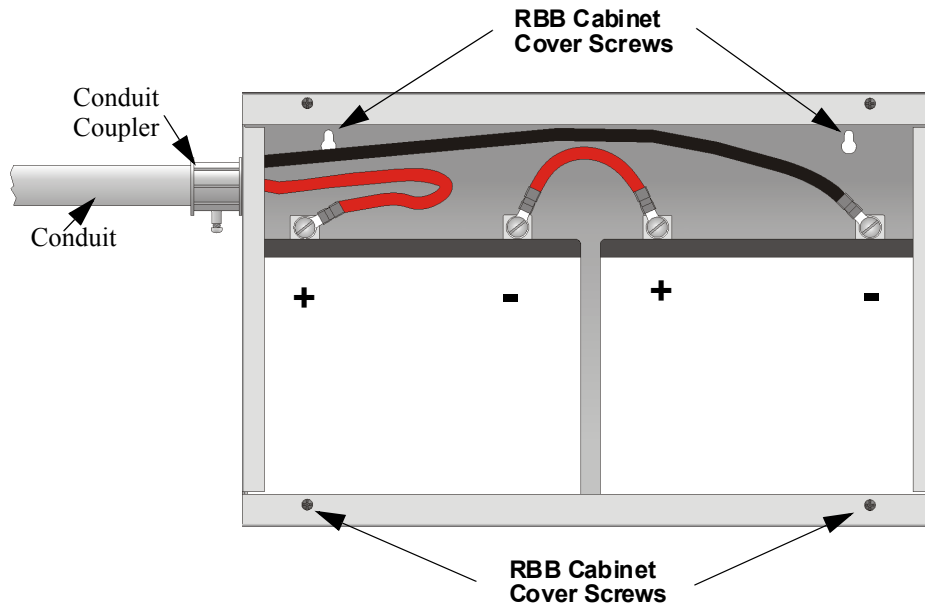

Figure 4-7 Battery Connections in the RBB Cabinet
See Figure 4-7.
Note: Figure 4-7 is an example of how the wire connections can be routed. However, any other cabinet knock-outs (on either the main control panel or the RBB cabinet), that are not previously being used may be utilized to connect conduit between the two cabinets.
4. Connect battery leads to the backup battery terminals. See Figure 4-7.
5. Insert the RBB cover screws into the cover mounting holes (see Figure 4-7).